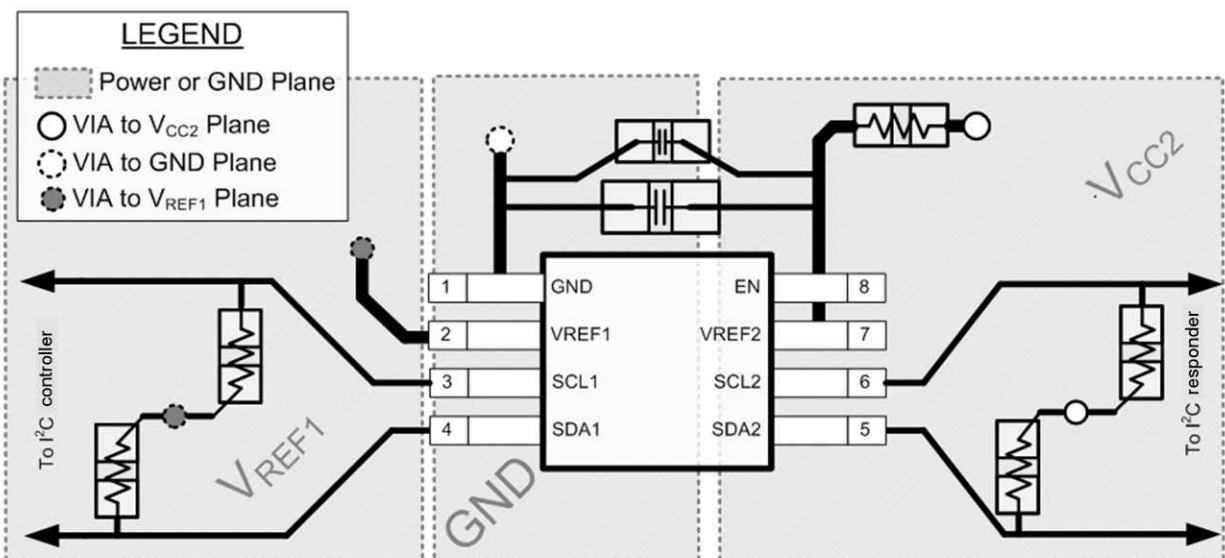

Figure 11-1. Layout Example
In all PCB layouts, it is a best practice to avoid right angles in signal traces, to fan out signal traces away from each other on leaving the vicinity of an integrated circuit (IC), and to use thicker trace widths to carry higher amounts of current that commonly pass through power and ground traces. The 100-pF filter capacitor should be placed as close to V_{REF2} as possible. A larger decoupling capacitor can also be used, but a longer time constant of two capacitors and the 200-kΩ resistor results in longer turnon and turnoff times for the TCA39306 device. These best practices are shown in Figure 11-1.
For the layout example provided in Figure 11-1, it would be possible to fabricate a PCB with only two layers by using the top layer for signal routing and the bottom layer as a split plane for power (V_{CC}) and ground (GND). However, a four-layer board is preferable for boards with higher-density signal routing. On a four-layer PCB, it is common to route signals on the top and bottom layer, dedicate one internal layer to a ground plane, and dedicate the other internal layer to a power plane. In a board layout using planes or split planes for power and ground, vias are placed directly next to the surface-mount component pad, which must attach to V_{CC} or GND, and the via is connected electrically to the internal layer or the other side of the board. Vias are also used when a signal trace must be routed to the opposite side of the board, but this technique is not demonstrated in Figure 11-1.